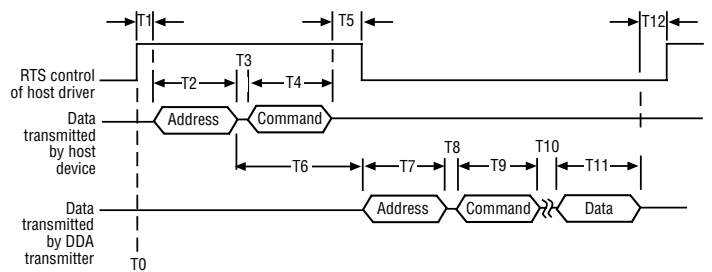

Fig. 5: Network protocol timing information
Network protocol timing sequences (interrogation sequences) are shown in (Figure 5). This time line representation of data transmission sequences also provides information about host computer control of the RS-485 communication card and also illustrates driver enabled control through the RTS control line.
Many available communication cards (line drivers) for use with the host computer device use a special control line input to control the enabling and disabling of the RS-485 driver. Typically this input is connected to the computers RTS or DTR communication port control line. The computer can then control the state of the driver by toggling the RTS or DTR signal lines via software control. An example of this control method is shown in (Figure 5). Other control methods are also used depending on the manufacturer of the equipment.
1. The start of the sequence begins when the host enables its RS-485 driver to transmit the Address/Command bytes (see time line 'T0' in Figure 5).